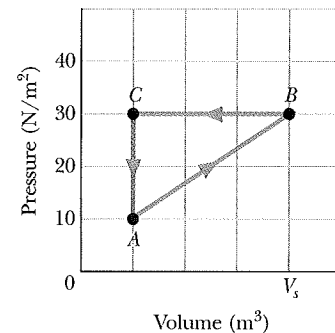

Fig. 18-38 Problem 45.
***45** **SSM** **ILW** A gas within a closed chamber undergoes the cycle shown in the p - V diagram of Fig. 18-38. The horizontal scale is set by $V_s = 4.0\text{ m}^3$. Calculate the net energy added to the system as heat during one complete cycle.